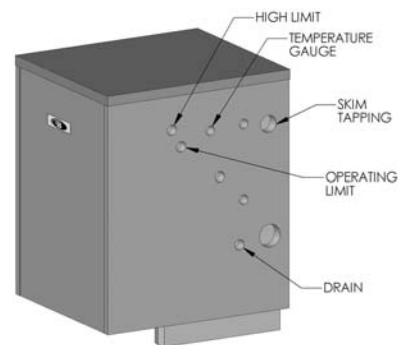

Figure 6.2 Water Boiler Tapping Locations
- Install the 3/4" drain valve provided into the drain tapping on the right hand side of the boiler. Refer to Figure 6.2 for tapping location.
- Install the pressure/temperature gauge (thermometer) supplied with the boiler into the 1/2" tapping located on the right side of the boiler. Refer to Figure 6.2 for tapping location.
- a. Install the operating limit control provided in the 3/4" tapping located on the right side of the boiler. Refer to Figure 6.2 for tapping location.
- b. (64-09 through 64-12) Install a high limit control in the 3/4" tapping located above the operating limit control. Refer to Figure 6.2 for location.